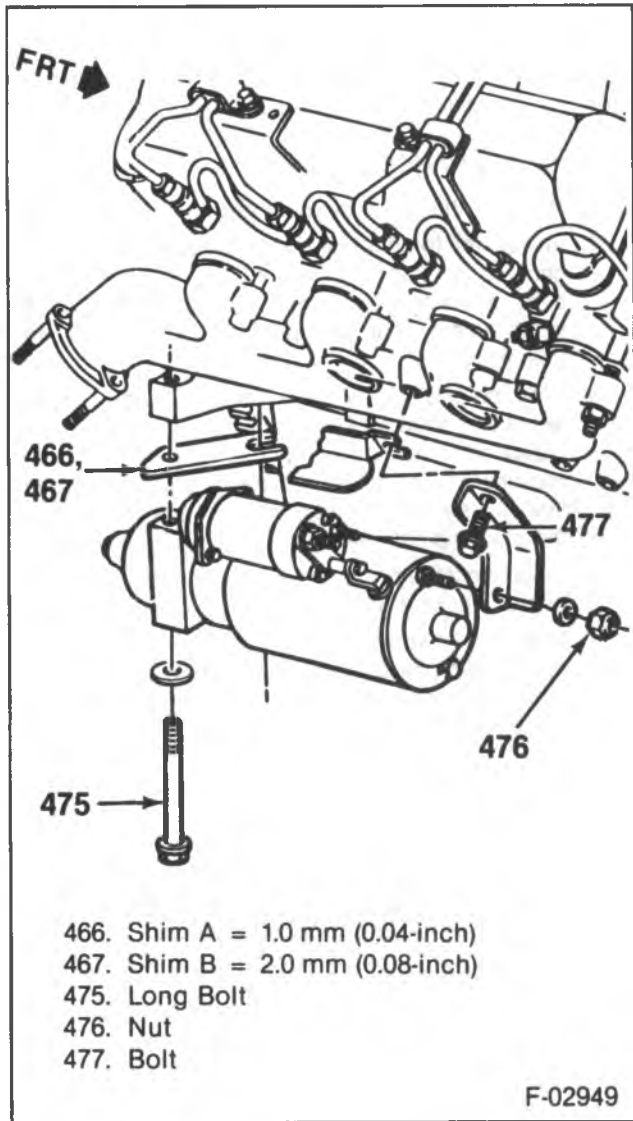

Figure 31 — Shimming Diesel Engine Starter Motors
Refer to the starter noise diagnostic chart. Starter shims are shown in figures 31 and 32.
- Diesel engine (figure 31):
2. Diesel engine starter motor (figure 31):